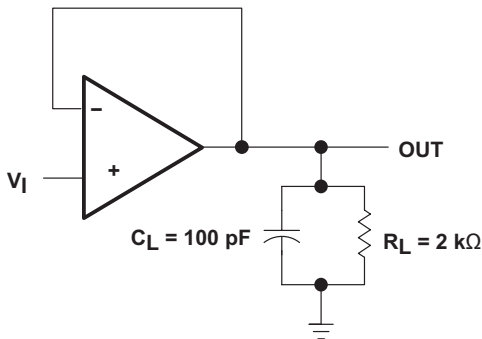

Figure 19. Test Figure 1
$V_I = 10\ \text{V}$ , $R_L = 2\ \text{k}\Omega$ , $C_L = 100\ \text{pF}$ , $T_A = -55^\circ\text{C}$ to $125^\circ\text{C}$ , See Figure 19	5 (1)